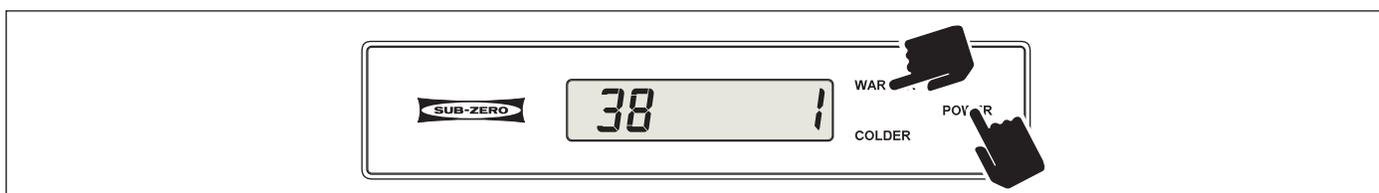
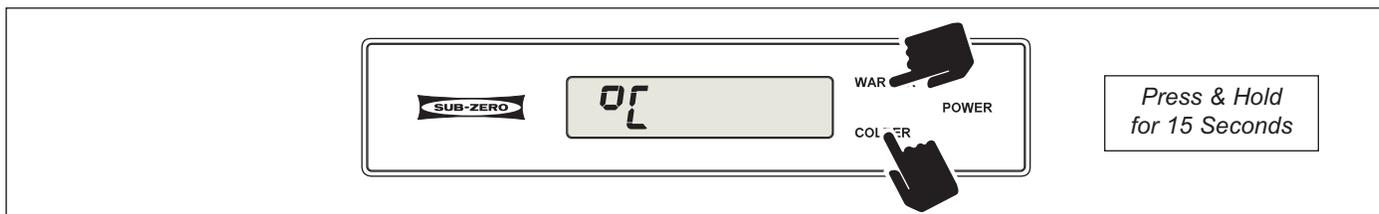

Fig. 3-10. (Models UC-24B, UC-24R, UC-24RO) Initiate TLR Mode First (*within first minute of switching ON*) Press and Hold WARMER Key, Then Press POWER Key
Figure 3-11. (Models UC-24B, UC-24R, UC-24RO) Convert Temperature Units of Measure Press and Hold the Refrigerator WARMER and COLDER Keys for 15 Seconds
To convert units of measure in these models, first press and hold the WARMER key and the POWER key (this actually initiates Temperature Log Recall Mode, which is covered fully, later in this section). (See Figure 3-10) Then, press and hold the WARMER and COLDER keys for fifteen (15) seconds and " °C " will appear on the LCD indicating temperatures will now be displayed in Celsius units of measure. (See Figures 3-11) To convert back to Fahrenheit units of measure, repeat the steps above.